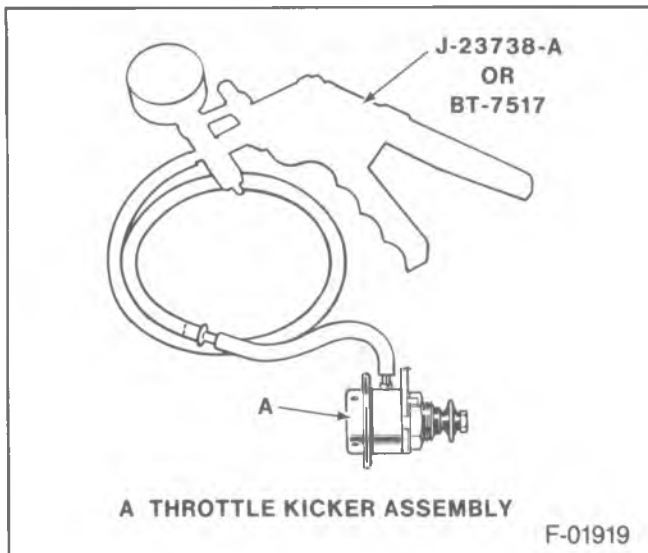

Figure 34—Checking Throttle Kicker
2. Apply -68 (20" Hg) vacuum to the throttle kicker (figure 34).